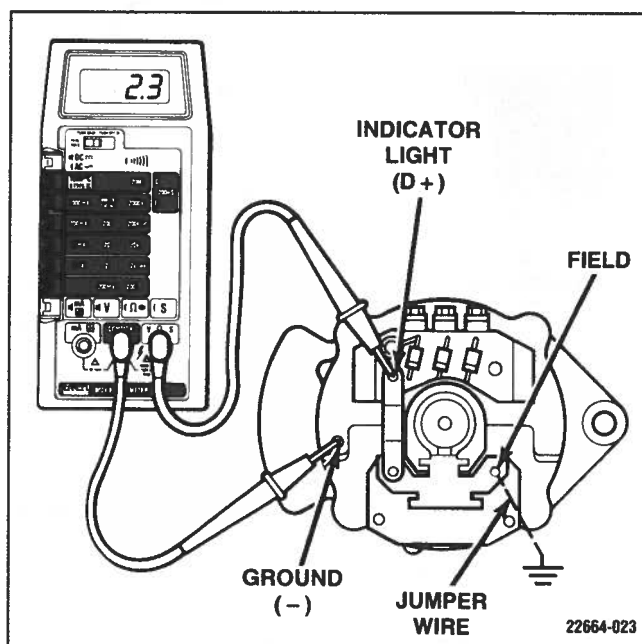

Figure 6-64. Open Field Circuit - Battery Voltage Check
3. With the ignition switch still ON, connect a voltmeter to the indicator light (D+) terminal and the ground (-) terminal (Figure 6-64). An open regulator can indicate battery voltage at terminal (D+).
5. Turn the ignition switch to ON. Connect a voltmeter to the indicator light (D+) terminal and ground (-) terminal (Figure 6-64). If 1.5-3.0 V is measured, a defective (open) regulator is indicated. If battery voltage is present at the (D+) terminal, a defective (open) field circuit is indicated. Repair the alternator, check for bad rotor, brushes, slip rings, etc.